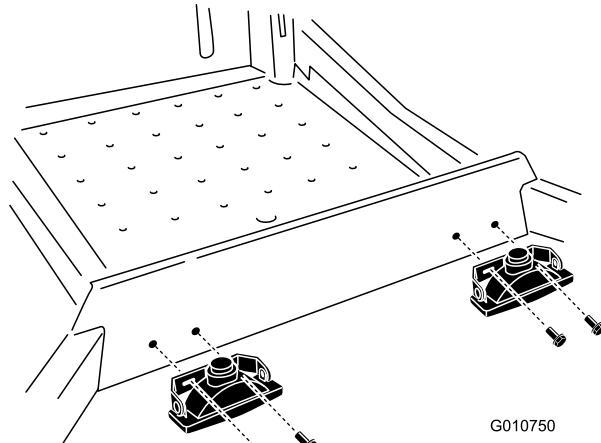

Figure 2
3. Install the lamp assemblies to the frame with the drain holes facing down at the drilled holes using four self tapping screws (1/4 x 1/2 inch) Figure 2. Do not tighten at this time to allow for further adjustment.